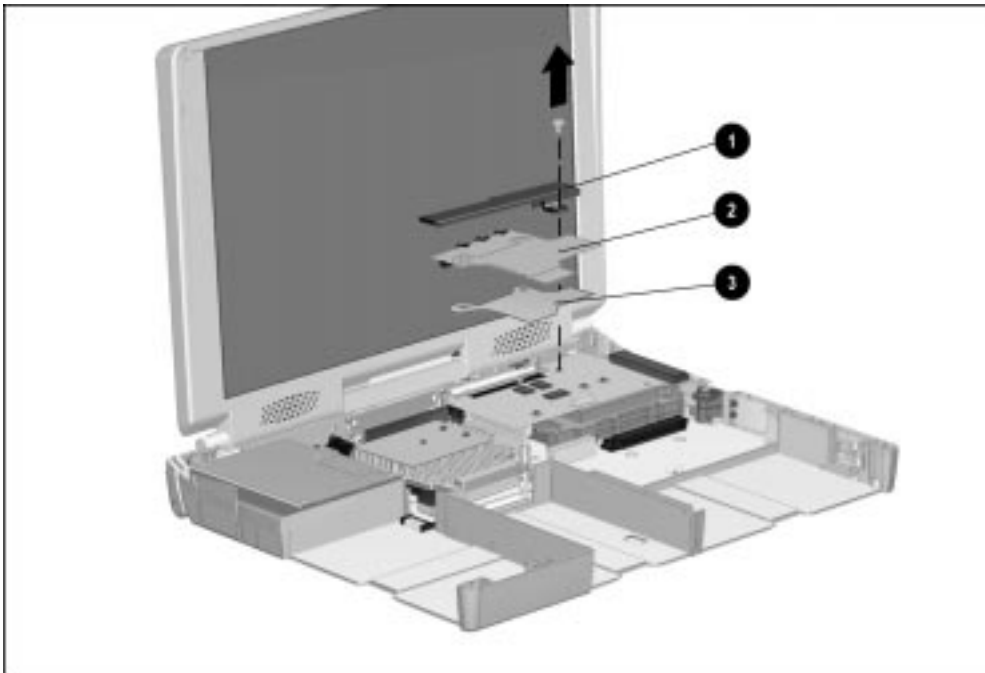

Figure 5-39. Removing the Audio/USB Board
7. Remove the screw that secures the right rear cover to the modem board and remove the right rear cover ❶ (Figure 5-39).
8. Lift up on the front of the audio/USB board ❷ until the connector disconnects and swing the board up and away from the computer.
9. Remove the audio/USB board insulator ❸.